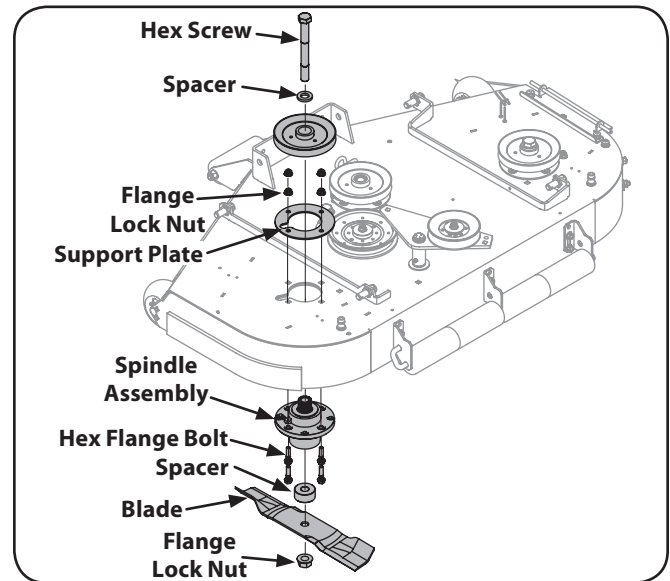

Figure 7-11
6. Using a $\frac{1}{16}$ wrench or socket ratchet remove the flange lock nuts, and the hex flange bolts. Remove the spindle assembly. See Figure 7-11.